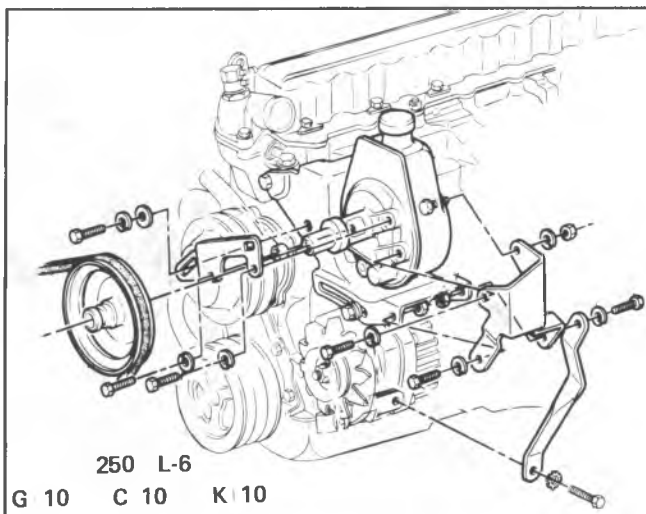

Fig. 6--Power Steering Pump
1. Position pump assembly on vehicle (Fig. 6) and install attaching parts loosely.